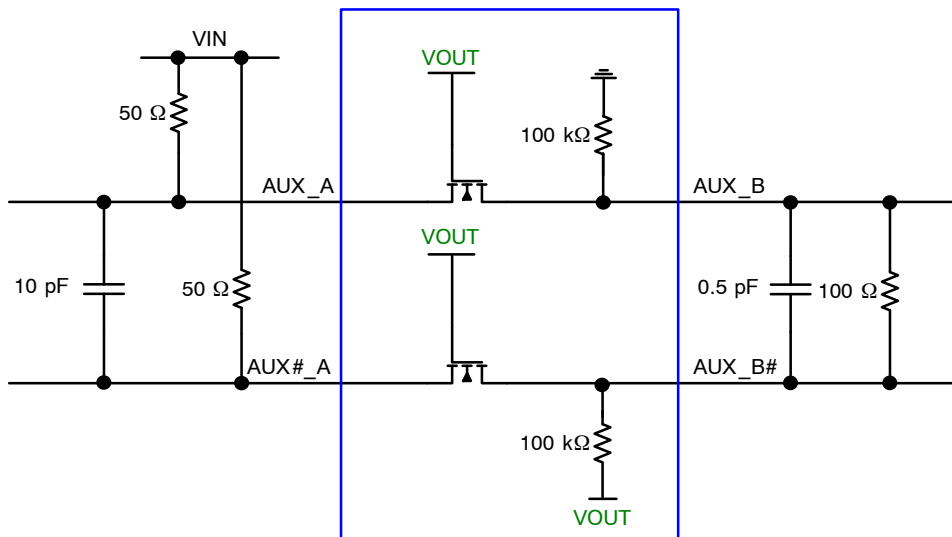

Figure 16. DP0 Mode AUX Channels Test Circuit
**Table 12. TIMING CHARACTERISTICS for AUX\_A/AUX#\_A to AUX\_B/AUX#\_B (AUX-CH3B [AUX\_A-AUX\_B], AUX#-CH4B [AUX\_A#-AUX\_B#] in DP0 Mode)** (VCCA = 1.65 V to 5.5 V and VOUT = 3.0 V to 3.6 V. See Figures 16 and 17.)